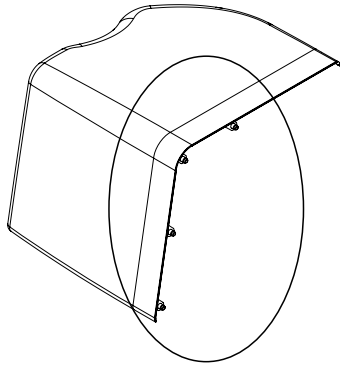

Figure 10. Cover fastener clip.
Once the drain and brine line is connected re-attach the cover. Refer to the below instructions and Figure 10 through Figure 12.
1. Insert the two pins on the top of the cover into the two holes on top of the frame; the cover should be slightly angled. See Figure 10.